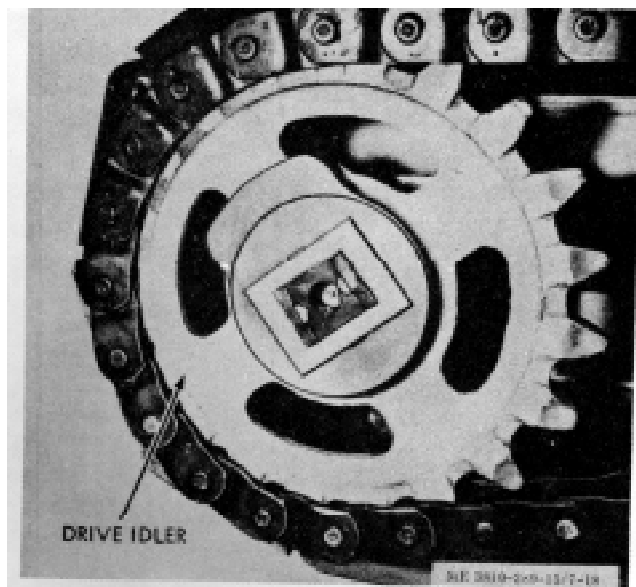

Figure 4-21. Track drive sprocket replacement.
- a. Disassembly (fig. 4-21).
- (1) Part track belt at drive tumbler end, and fold back upper links.
- (2) Remove four bolts in tumbler shaft bearings.
- (3) Part the drive chain at any link.
- (4) Remove the two adjusting screw pins and roll tumbler out.
- (5) Remove chain sprocket by bending back lock bar and removing capscrews.
- (6) Take outer and inner bearings off shaft.
- (7) Press tumbler off shaft (30-50 ton press).